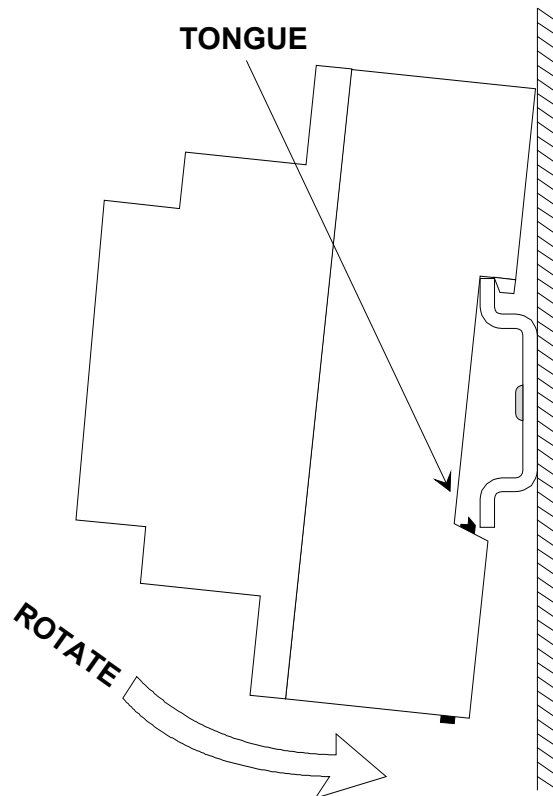

Figure 2. Hooking Up the Unit to the DIN Rail
2. Press until you hear the tongue click into position on the rail (see Figure 2).